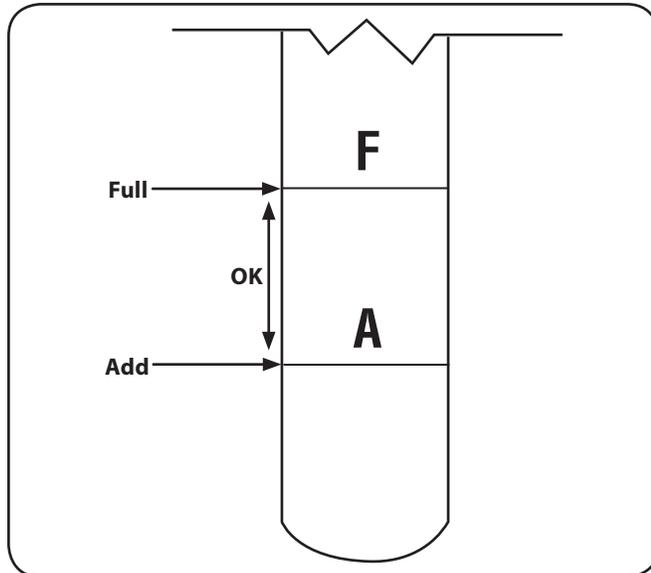

Figure 6-2
1. Remove the dipstick and check the level. See Figure 6-2.
7. Remove the oil fill plug/dipstick from the oil fill port and SLOWLY pour oil into the oil fill port. Fill the transmission case until the oil level reaches the “FULL” mark on the dipstick. Refer to Figure 6-2.